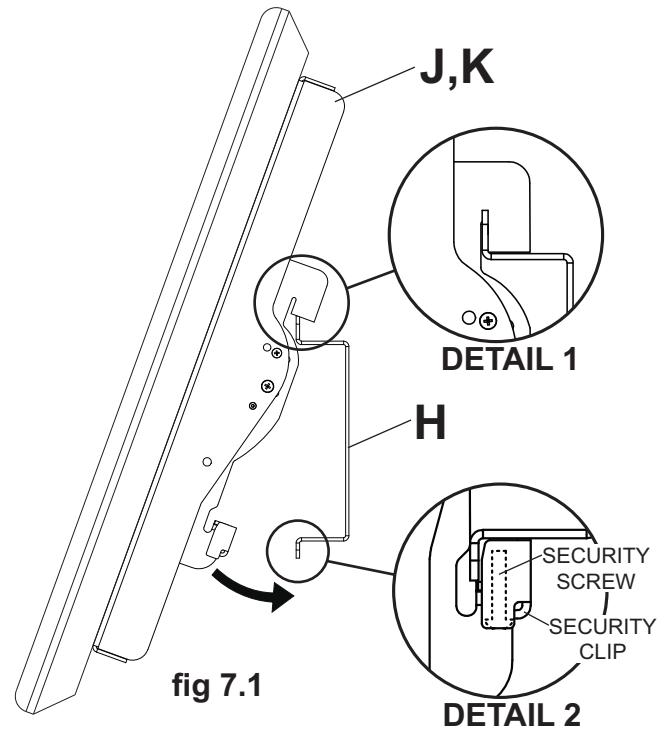

fig 7.1
**Mounting Screen:** Hook tilt brackets (J,K) onto adapter plate (H) and swing screen in as shown in fig. 7.1. **NOTE:** If the security clip does not clear the bottom of the adapter plate, loosen the security screw with allen wrench (L). Tilt bracket hooks must fully engage adapter plate as shown in detail 1. Tighten security screw using allen wrench (L) until security clip sits firmly against bottom of adapter plate.